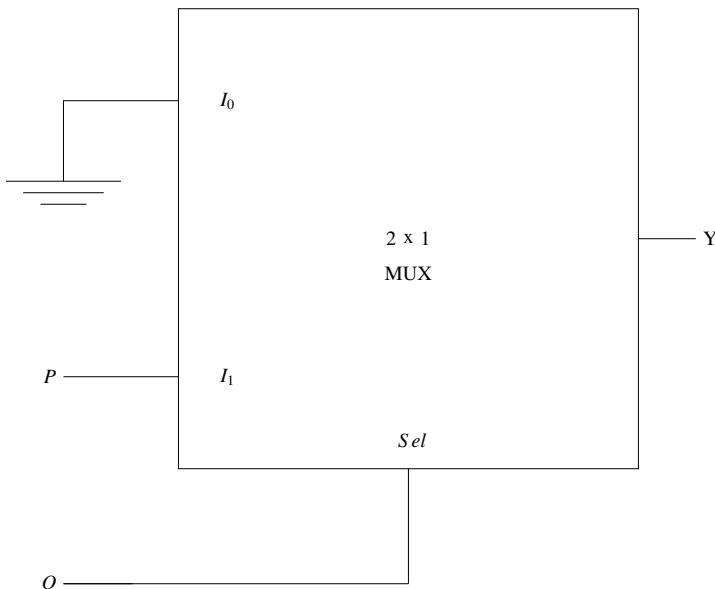

Fig. 4.23
38. In the circuit shown below in Fig. 4.23, P and Q are the inputs. The logical function realized by the circuit shown below in Fig. 4.23 is